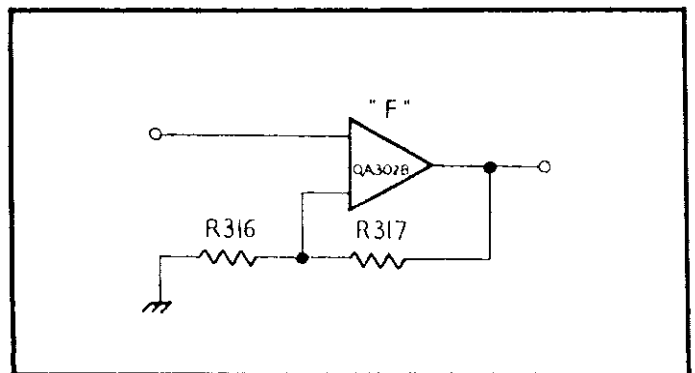

FIGURE 24. Non-inverting Stage "F".
f. Stage "F". This amplifier stage is composed of integrated circuit QA302B connected as a non-inverting amplifier as shown in Figure 24. Gain is set by resistors R316 and R317, where: